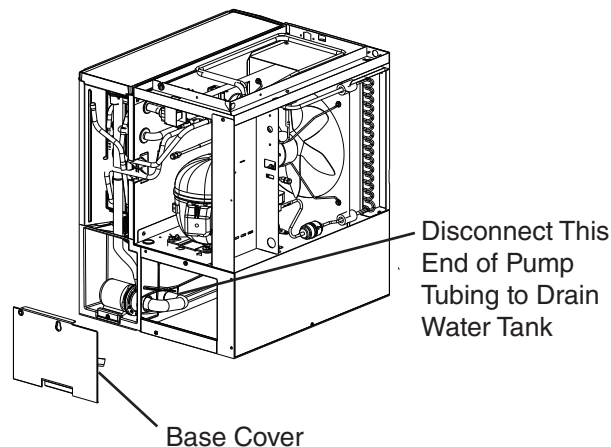

Fig. 5
- 3) Drain the water tank. Remove the base cover, then disconnect the water tank end of the pump tubing to drain the water tank. See Fig. 5. After the water tank has drained, reconnect the pump tubing.
- 3) Remove the base cover, disconnect the water tank end of the pump tubing to drain the water tank. See Fig. 5. After the water tank has drained, reconnect the pump tubing.